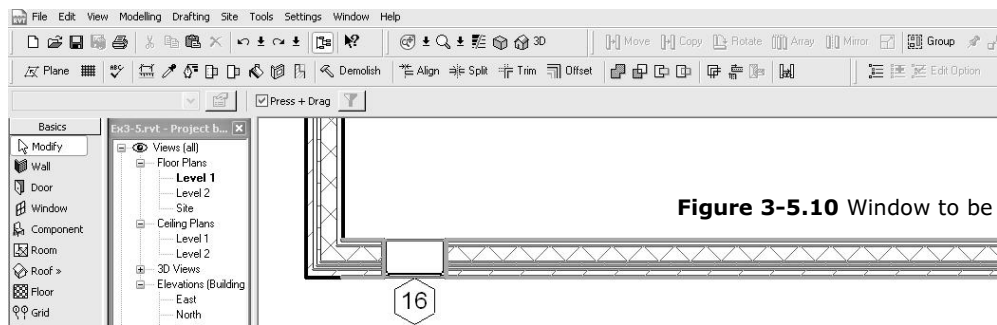

Figure 3-5.10 Window to be arrayed
19. In the *Options Bar*, type **6** for the *Number* field (Figure 3-5.10).